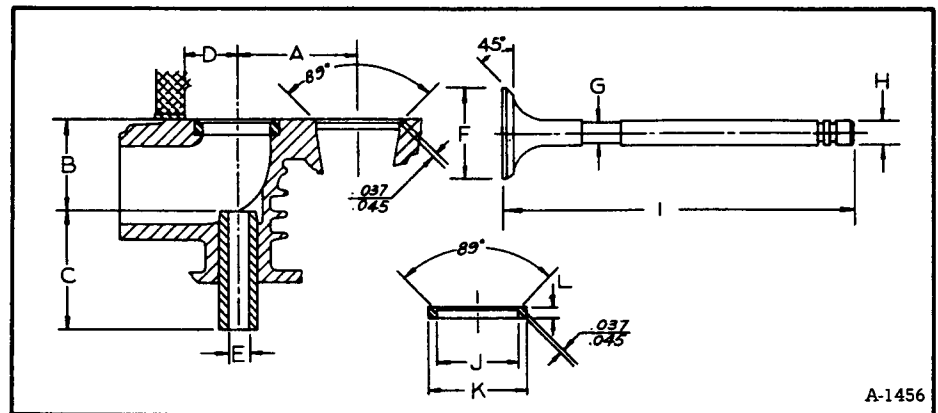

Fig. 251 Valves, Seats and Guides
6. Valves, Seats and Guides: (Figure 251)